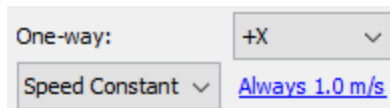

Figure 66. Changing a stair into an escalator
4. Click the **Speed Modifier** drop-down, and choose **Speed Constant** as shown in Figure 66.